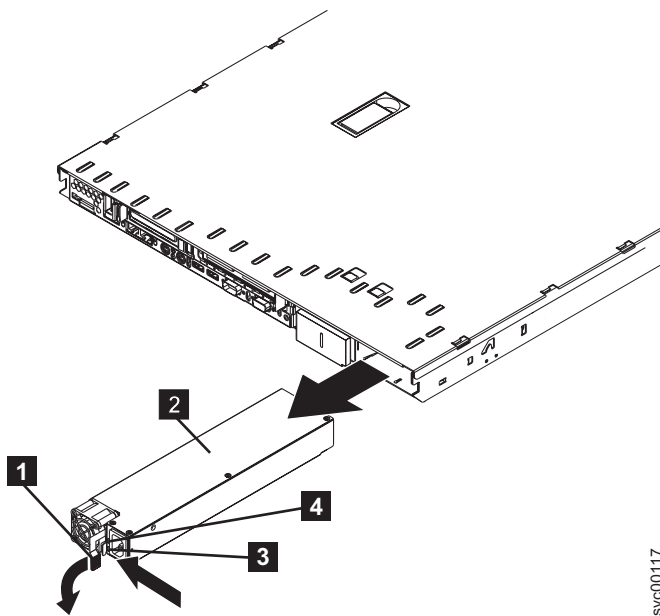

Figure 152. Removing the SAN Volume Controller 2145-8F2 power supply
4. From the rear of the node, as shown in Figure 152, push the orange release lever to the left and then push down on it to release the power-supply assembly. This will move the power supply back, slightly, for easy removal.